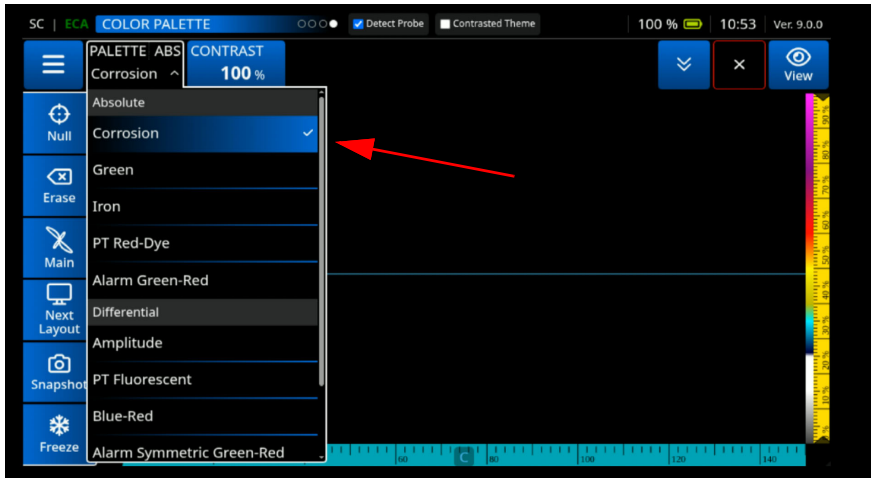

Figure 4-43 Select Corrosion Color Palette
7. Select the **Corrosion** color palette (See Figure 4-43 on page 152).